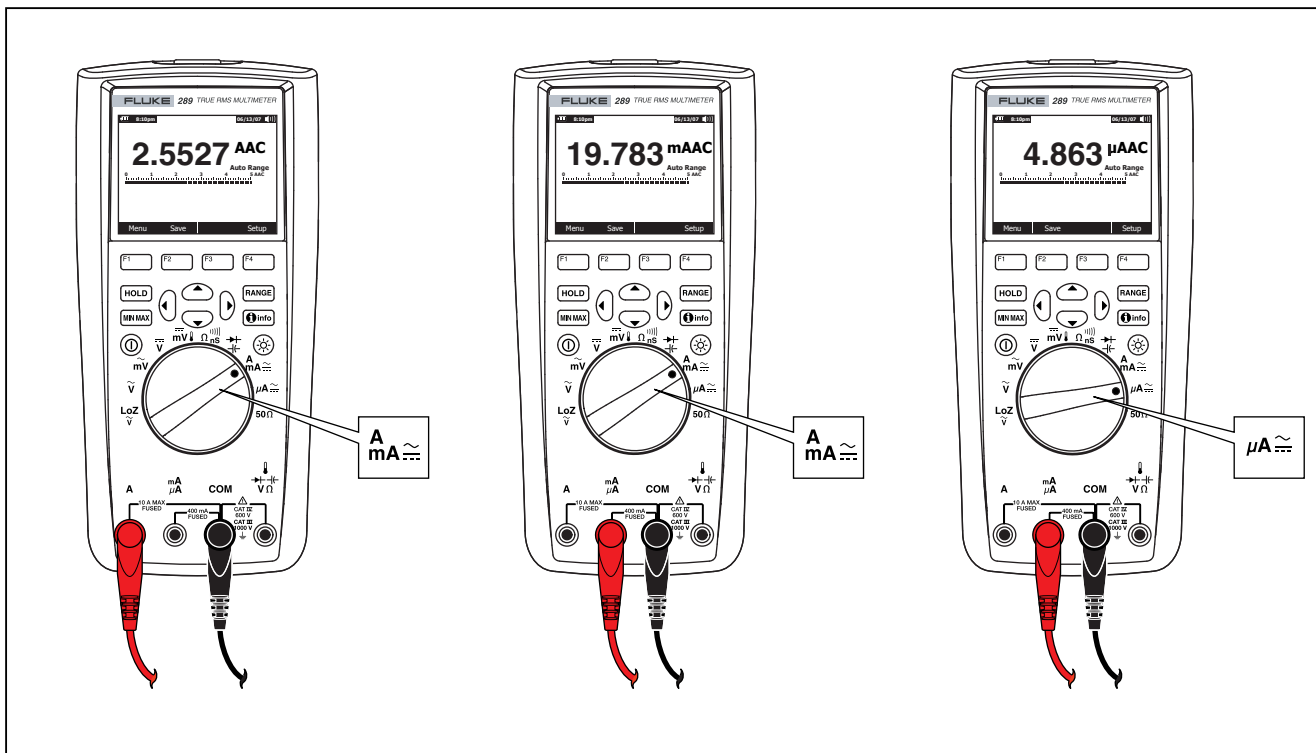

Figure 21. Current Measurement Setup
3. If you are using the A terminal, set the rotary switch to  $\overset{\text{A}}{\text{mA}} \approx$ . If you are using the mA/μA terminal, set the rotary switch to  $\mu\text{A} \approx$  for currents below 5000 μA (5 mA), or  $\overset{\text{A}}{\text{mA}} \approx$  for currents above 5000 μA. See Figure 21 for test lead connections and function selection. Refer to the "Input Alert Feature" section for information on the alerts the Meter uses when leads are not used correctly for current measurements.